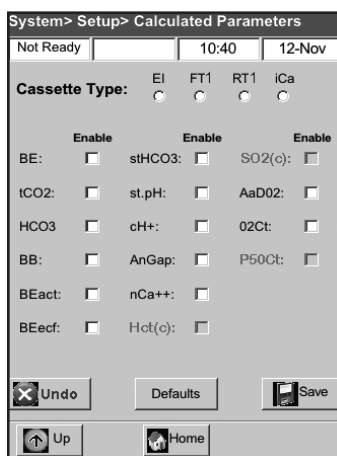

Figure H-13: System > Setup > Calculated Parameters screen
4. Select the cassette type (Figure H-13).
NOTE: Each cassette type can have different calculated parameters. In Figure H-13, all available parameters are displayed. When you select a cassette type (e.g., EI—Electrolytes), the parameters specific to that cassette are displayed.